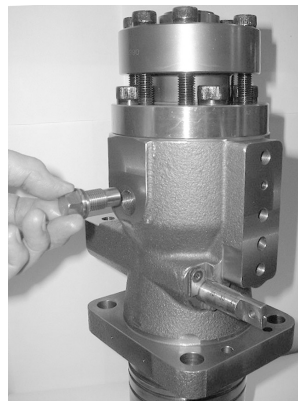

Fig. 30
16. Tighten the deflector with new gasket into the pump housing up to a torque 60 Nm with a torque wrench [fig. 30].